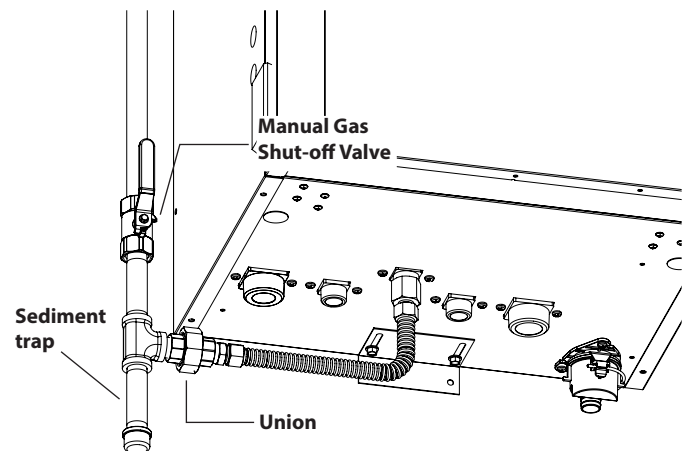

Figure 55 - Gas Line with Shut-Off and Sediment Trap Detail
- The National Fuel Gas Code (NFPA 54) requires that a sediment trap (drip leg) be installed in the gas line on boilers not so equipped. The drip leg must be accessible, a minimum of 3" in length, and not subject to freezing conditions. See Figure 55.
- A manual gas shut-off valve should be installed in the gas supply line close to the boiler. See Figure 55.